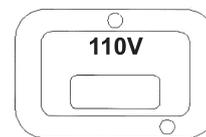

fig.3
- 3.1.3 Remove the cover panel and select the required switch position as shown in fig.3.